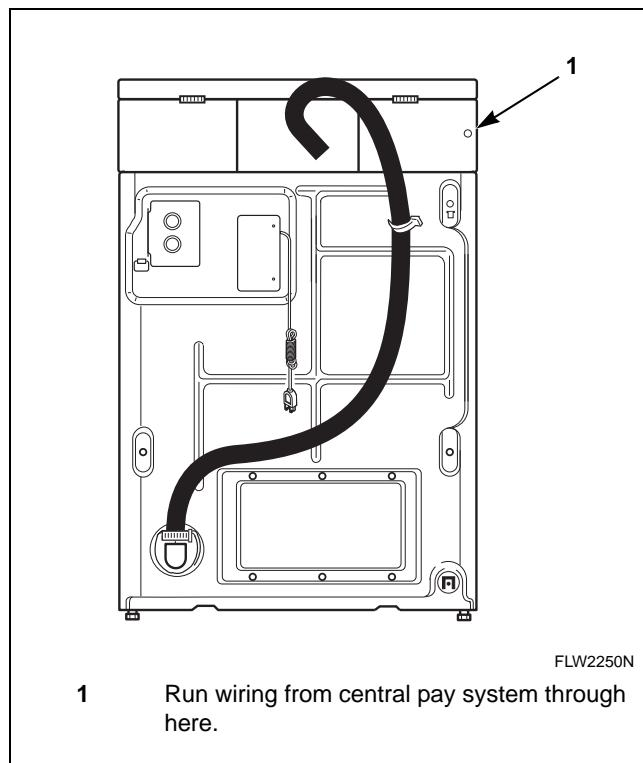

Figure 14
**NOTE: Wiring to the central pay system should exit machine through hole in rear of control cabinet. Refer to *Figure 14*.**